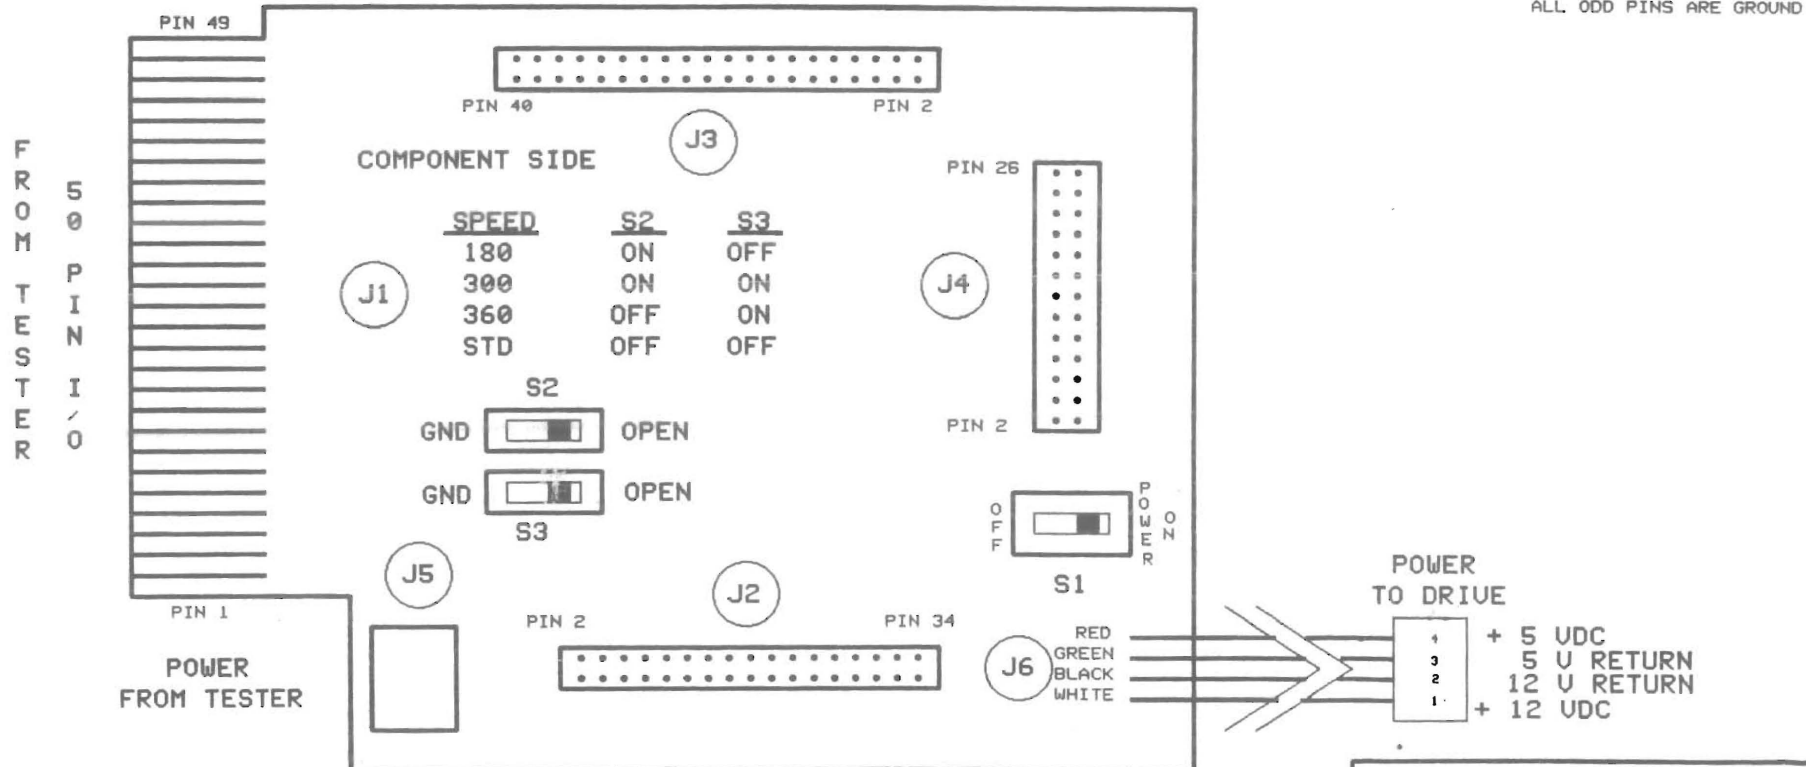

FIGURE 1
The **UNIDAPT 450L** has three switches to extend the range of operation (see Figure 1) and are explained below:
- S1**      **POWER ON/OFF** - This switch is used to direct +5VDC and +12VDC (if required) to the I/O of the 26, 34 and 40 Pin interfaces. When **ON**, power is through the I/O on the pins as noted in Figure 1. When **OFF**, power is conventional through **J6** and not supplied to the I/O. The pins affected are as follows:
- S3**      **PIN 3/11 CONTROL** - This switch is used to change the state of Pin 3 of the 34 Pin interface and Pin 11 of the 26 Pin interface. In conjunction with **S2**, this switch is used to control the spindle motor speed on tri-speed drives (180,300,360 RPM) that have a 34 Pin interface (refer to Figure 1 for speed control settings). Some 26 Pin interfaces use this Pin for density control (see the attached page for switch settings). When in the **OPEN** position, these Pins will be held **HIGH** via the drive interface pullup resistor. When in the **GND** position, these Pins will be held to Ground.